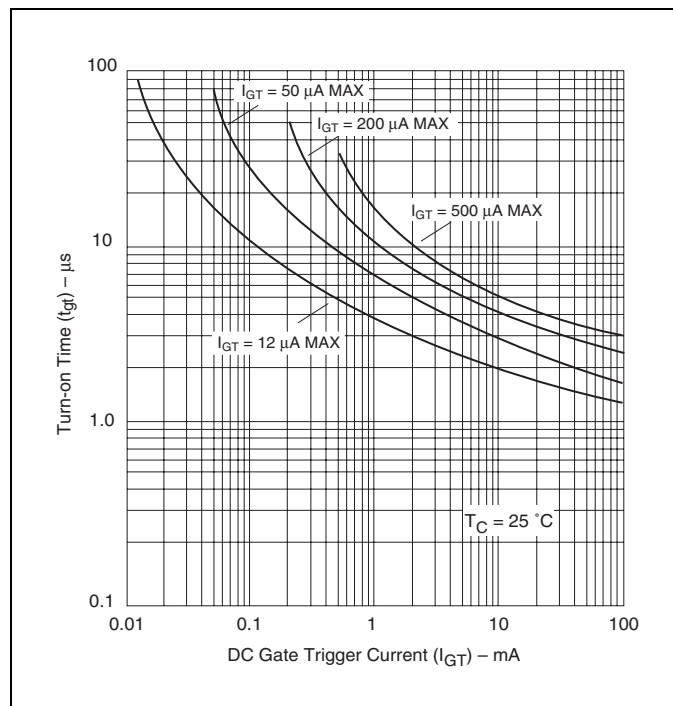

Figure E5.15 Typical Turn-on Time versus Gate Trigger Current
- See Figure E5.15 for tgt versus IGT.